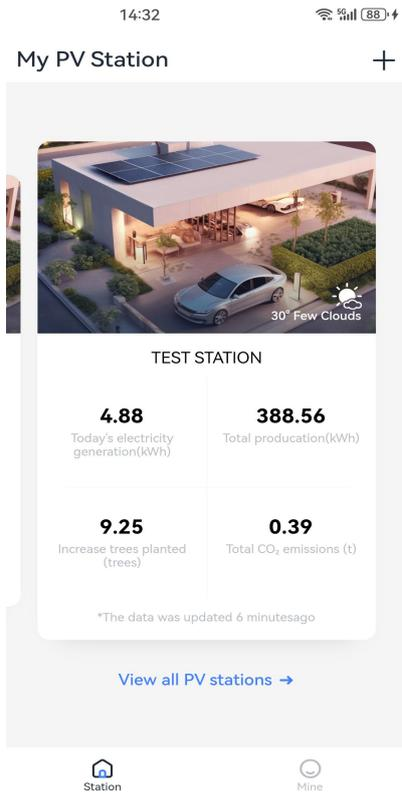

Figure 8.3.1
- By clicking the "View this power station" button, you can go to the power station details page (Figure 8.3.1)